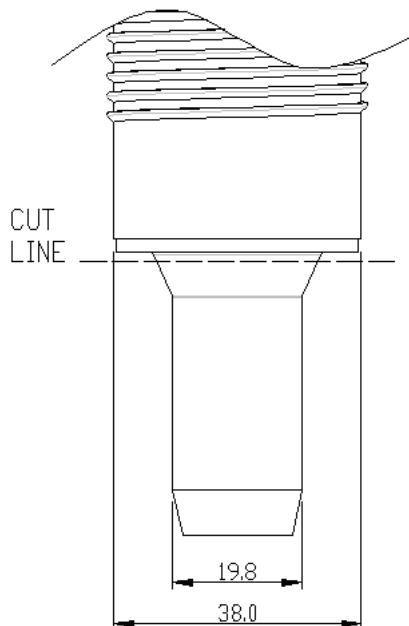
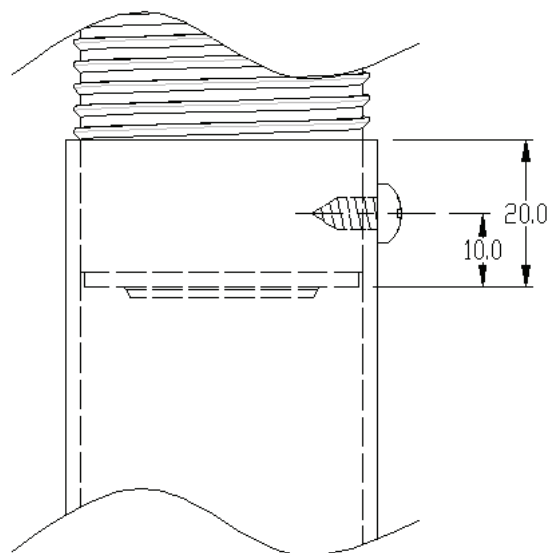

FIGURE 1
FIGURE 2
- Option one is for a small diameter pipe which **MUST BE** secured with PVC cement, not a screw. This slides over the Ø19.8mm fitting detailed in Figure 1.
- Option two is for a larger diameter pipe and prior to connection, the snorkel outlet **MUST BE** modified by cutting and de-burring at the "CUT LINE" shown in Figure 1. Once complete, slide on the large diameter pipe, drill a pilot hole Ø3mm and secure with a 8gx3/8 stainless steel screw as shown in Figure 2.